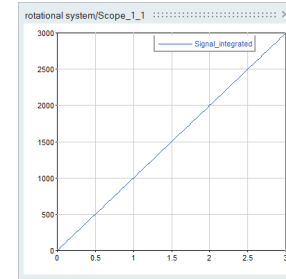

Fig. 1: Integrated step signal
- Applying a step torque input to this system will produce a displacement value that goes to infinity (Fig.1)